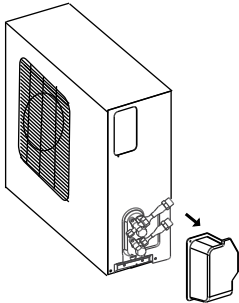

FIG. 6.1
- 1 First, remove the water tray on the outdoor unit as shown in Fig. 6.1.